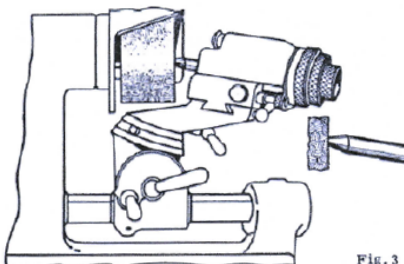

Fig. 3
2. Release clamping lever *K2*, using scale *T2*, set swivel arm at an angle of 30° approximately; tighten clamping lever *K2*, see Fig. 3.